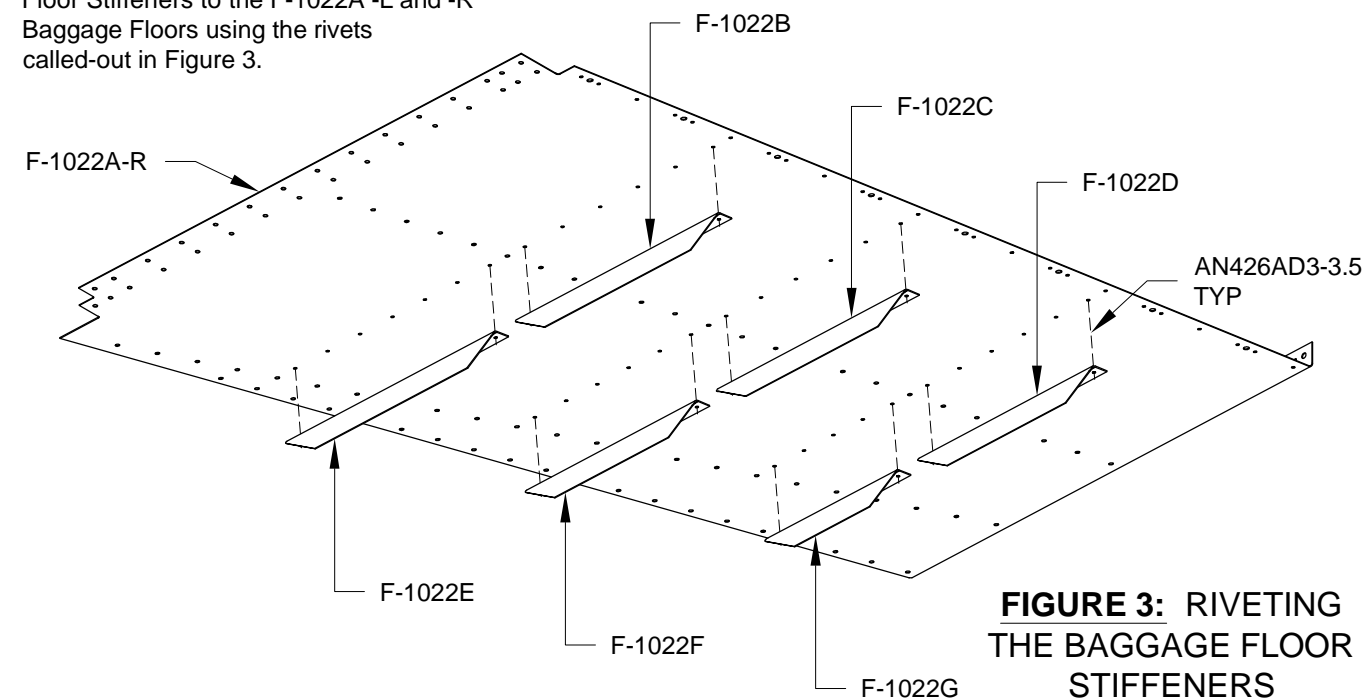

FIGURE 3: RIVETING THE BAGGAGE FLOOR STIFFENERS
Step 10 (Standard Kit): Rivet the F-1022 Baggage Floor Stiffeners to the F-1022A -L and -R Baggage Floors using the rivets called-out in Figure 3.